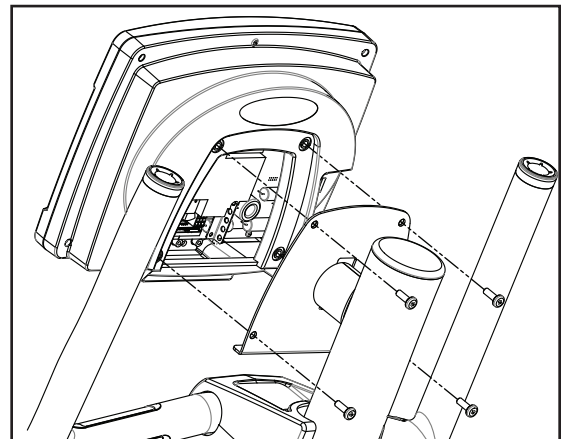

Figure 18
- 10-3 Secure the console using the 4 Phillips screws (see Figure 18).